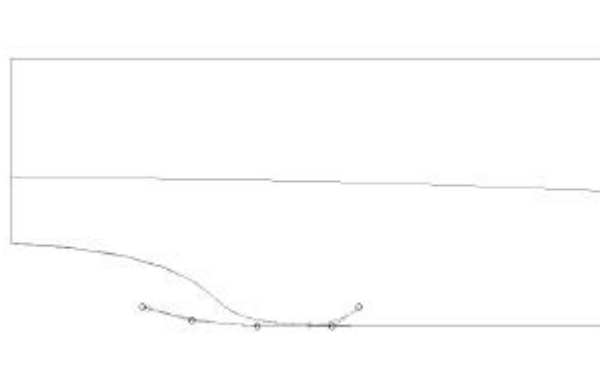

Figure 5-10: Curve Stern Bulb Profile
1. Define the lower profile of the stern bulb by creating a curve called **Stern Bulb Profile** in side view. See Figure 5-10.